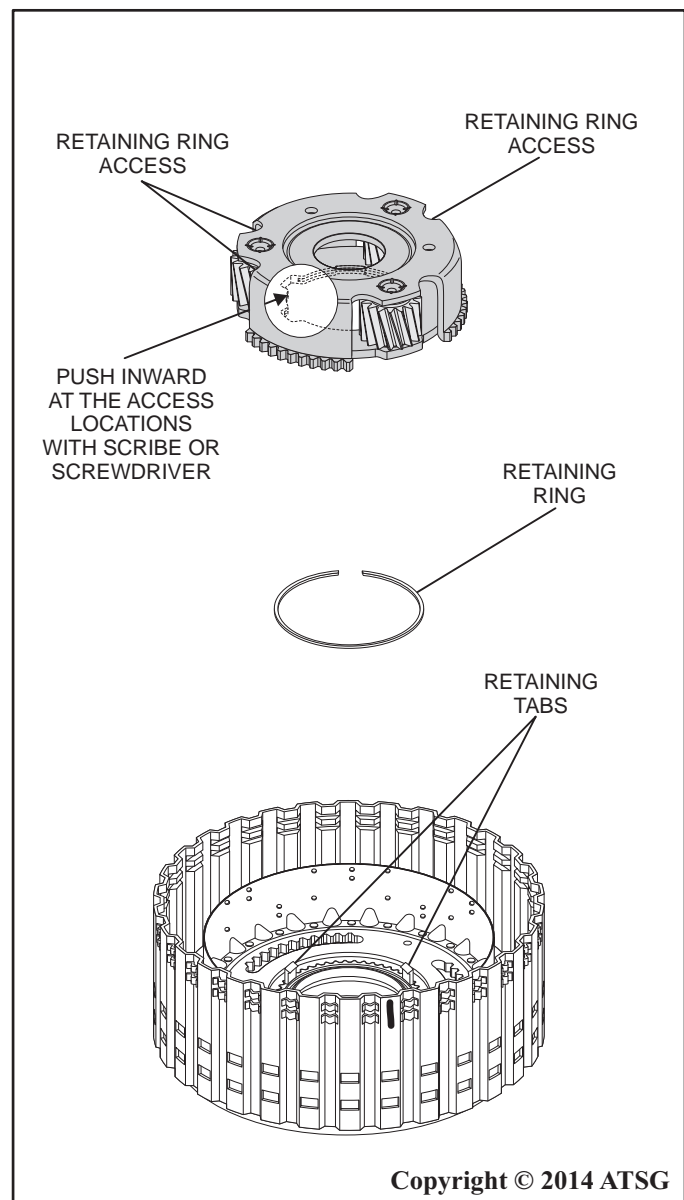

Figure 83
28. Using a hooked scribe or a small screwdriver manipulate the scribe or screwdriver into the slots at the bottom of the planetary carrier as shown in Figure 83.